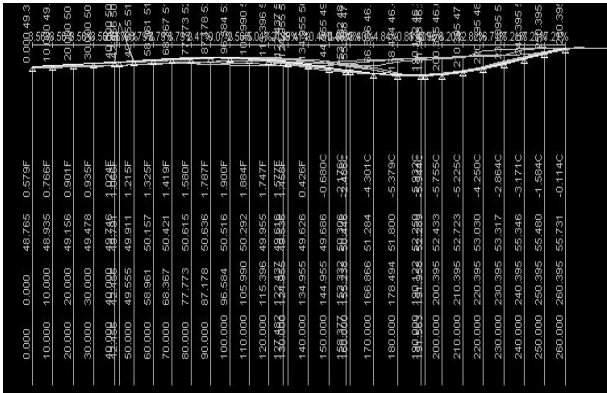

Figure 18-4. Profile Pane
- Profile Pane (bottom) – displays the profile for the natural surface and the design profile with vertical IP points for the reference alignment or any one selected string (Figure 18-4 on page 18-3).